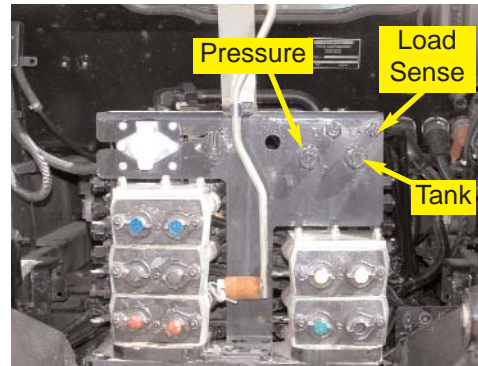

Figure 3a. Pressure, tank and load sense locations.
- a. The Automated Steering Block will receive pressure, tank, and load sense connections from the capped ports at the rear of the tractor, above the hydraulic remote valves. (Figure 3a.)
- b. The bottom left port is the pressure port, the bottom right port is the tank port and the top right port is the load sense port. (Figure 3a.)